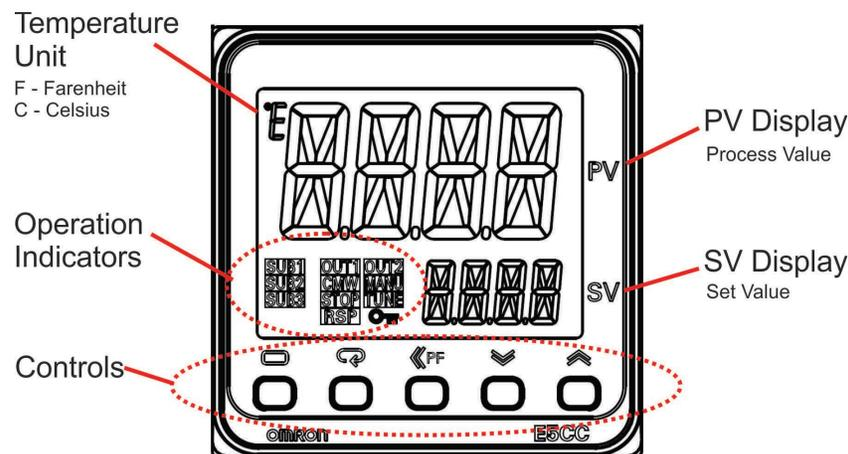

Figure 4-6. 501-TRS Temperature Controller Startup
The 501-TRS temperature controller is preprogrammed at the factory, so no special setup operation is required. The temperature controller (see Figure 4-6) should immediately come on in operation mode: the current temperature of the converter oven should immediately appear in the display area and the process value (PV) LED should be lit.